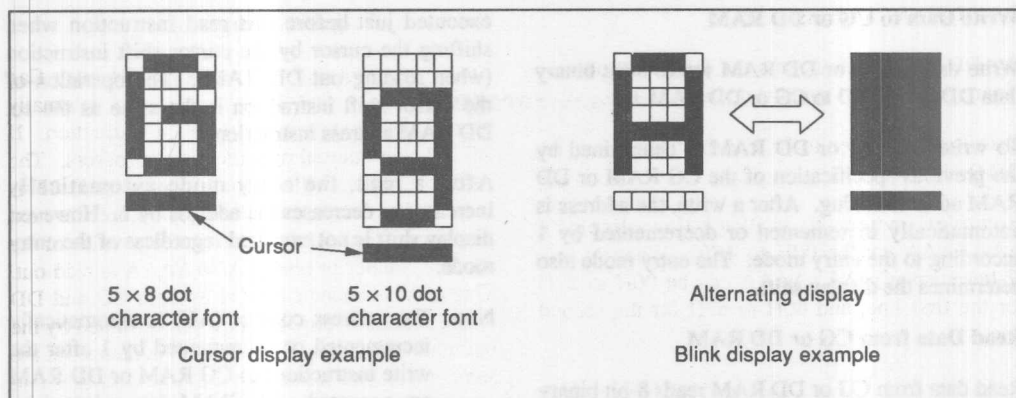

Figure 16 Cursor and Blinking
**C:** The cursor is displayed when C is 1 and not displayed when C is 0. Even if the cursor disappears, the function of I/D or other specifications will not change during display data write. The cursor is displayed using 5 dots in the 8th line for  $5 \times 8$  dot character font selection and in the 11th line for the  $5 \times 10$  dot character font selection (figure 16).
**B:** The character indicated by the cursor blinks when B is 1 (figure 16). The blinking is displayed as switching between all blank dots and displayed characters at a speed of 409.6-ms intervals when  $f_{cp}$  or  $f_{OSC}$  is 250 kHz. The cursor and blinking can be set to display simultaneously. (The blinking frequency changes according to  $f_{OSC}$  or the reciprocal of  $f_{cp}$ . For example, when  $f_{cp}$  is 270 kHz,  $409.6 \times 250/270 = 379.2$  ms.)